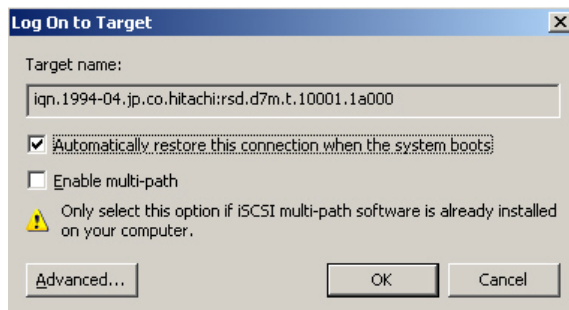

Figure A.13 Log On to Target Dialog Box
13. Select the target to login from the displayed target, and then click **Log On**. The **Log On to Target** dialog box displays (see Figure A.13).
14. To reboot the host each time a reconnection is performed automatically, select **Automatically restore this connection when the system boots** (see Figure A.13).